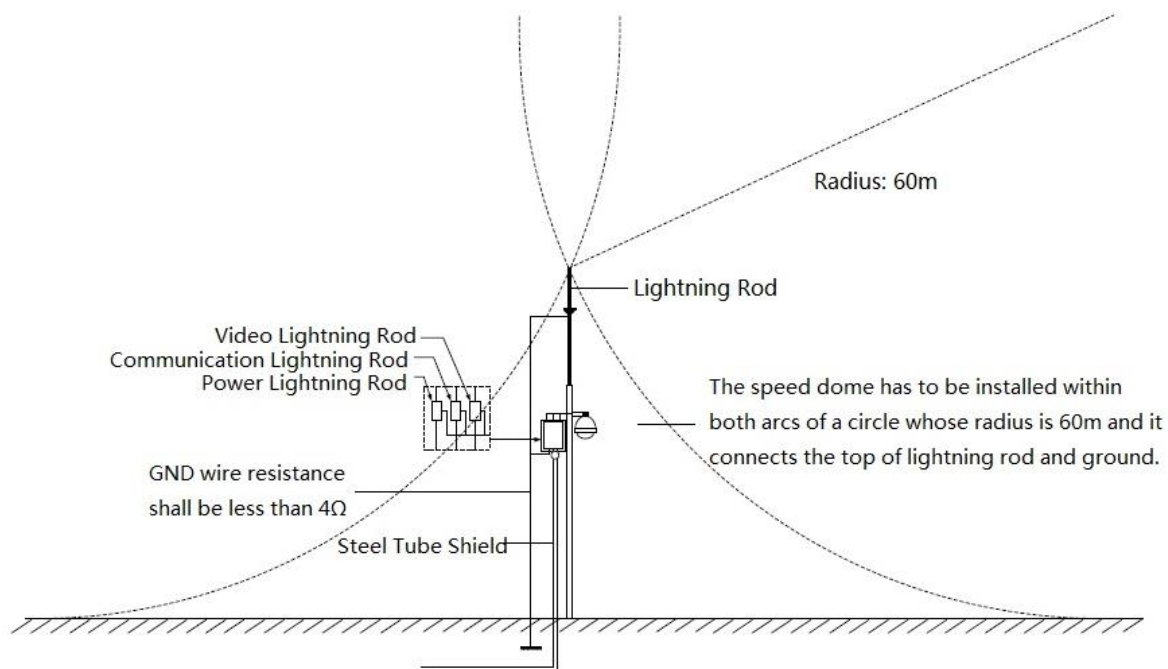

Figure 5-1
- System shall adopt equal-potential wiring. The earth device shall meet anti-jamming and at the same time conforms to your local electrical safety code. The earth device shall not short circuit to N (neutral) line of high voltage power grid or mixed with other wires. When connect the system to the earth alone, the earth resistance shall not be more than  $4\ \Omega$  and earth cable cross-sectional area shall be no less than  $25\ \text{mm}^2$ . See Figure 5-1.